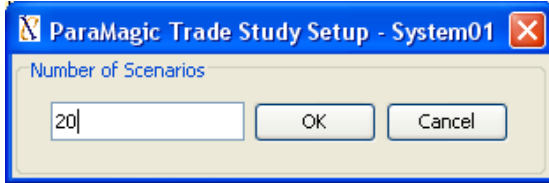

Figure 8.2 Trade Study Setup window
- b. As shown in Figure 8.2, enter the number of scenarios (20 in this example) and click OK.